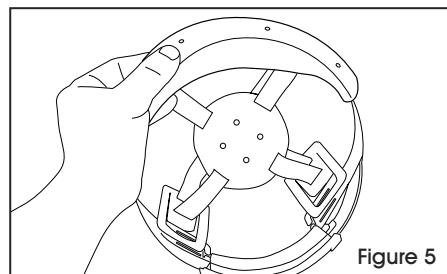

Figure 5
4. Fold the sweatband down over the suspension and attach to the 4 lower hooks. (See Figures 5 and 6)